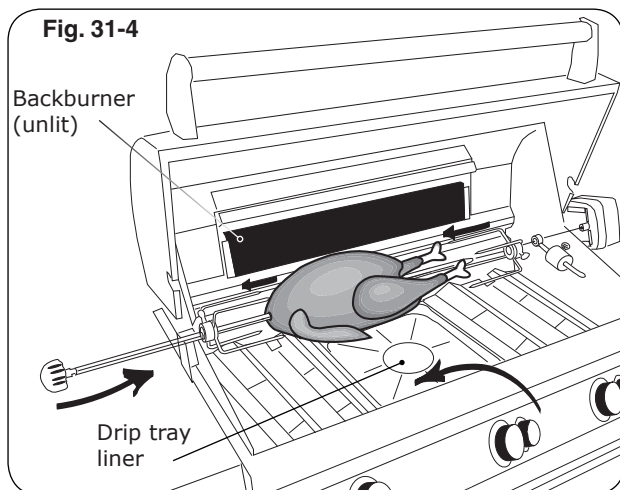

Fig. 31-4
4. Slide the left meat holder onto the rod (and tighten), the meat onto the rod and into the holder, followed by the right meat holder onto the rod and into the meat as shown in Fig. 31-4. Tighten the right meat holder. Be sure the meat is centered and balanced as well as possible.
9. To keep drippings off the burners and simplify cleanup, place Fire Magic® drip tray liners under the meat, if desired (Fig. 31-4).